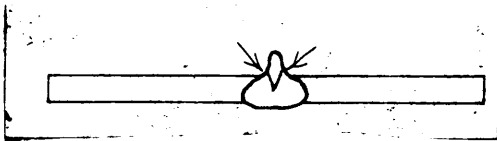

Figure 7.
3. Heat center clip to a cherry red, and immediately slip clip on single tree and make sure that clip is directly in the center. Hammer clip tight on the wood. While the clip is still hot, hammer the portions of the clip where the round portion meets the flat portion. (Figure 7). This will prevent the clip from slipping and working loose. All of this fitting should be done rapidly, if not, the wood would become charred. Place in water immediately after the fitting has been done.